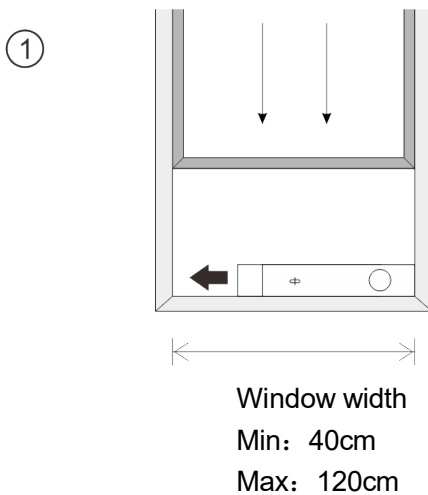
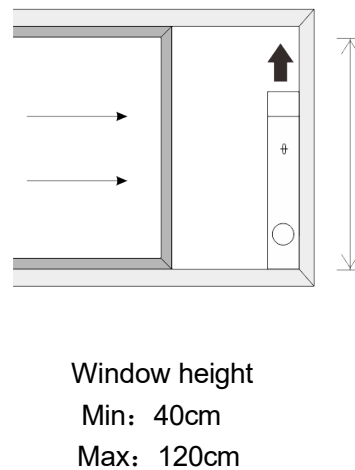

Fig.4
Fig.4a
The installation manner of window slider kit is mostly in “horizontal” and “vertical”. As shown Fig.4 and Fig.4a, check the min. and max. size of the window before the installation.
1. Install the window kit on the window (Fig.4, Fig.4a).